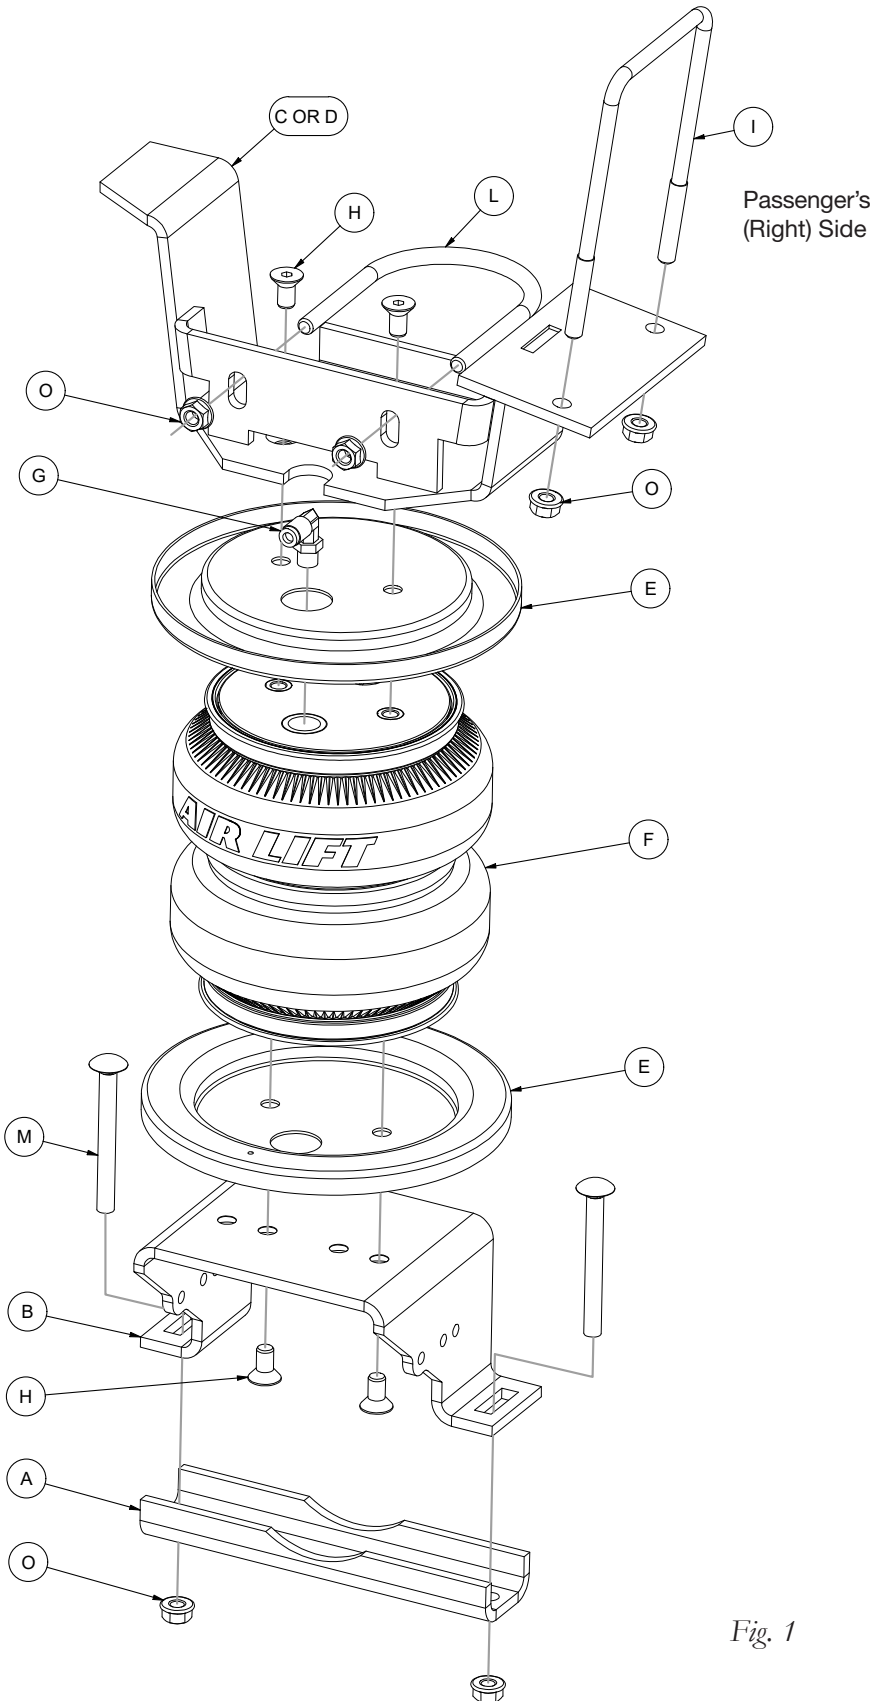
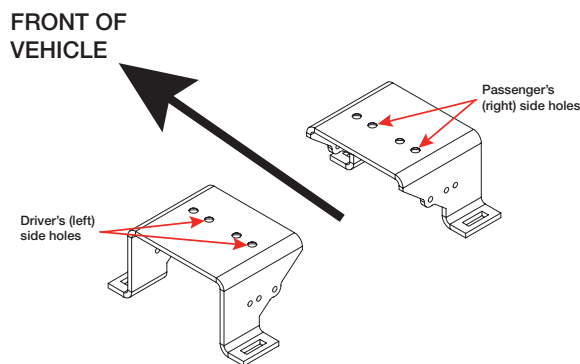
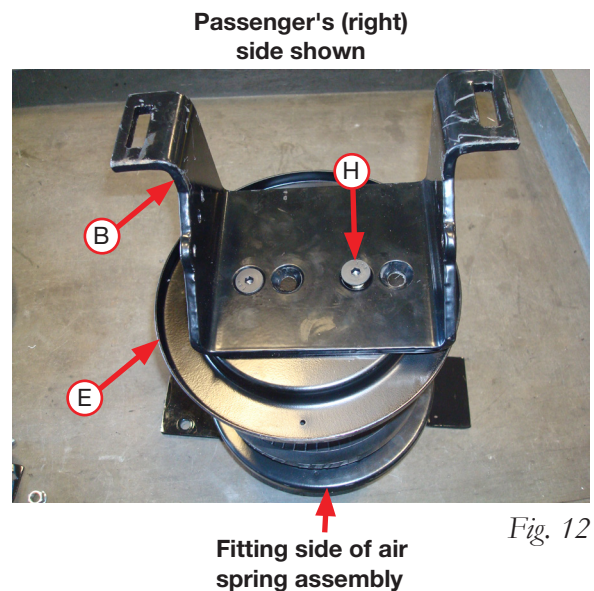

Fig. 1
Fig. 11
Fig. 12
\* These parts are not shown in the Installation Diagram (Fig.1).
3. To determine which holes in the lower bracket (B) to use for installing on the air spring assemblies, set them next to each other with the angled sections pointing toward each other (Fig. 1, Fig. 11 & Fig. 12). Use the first and the third holes on each bracket to attach to the air springs. Set a roll plate (E) onto the air spring assembly and attach the lower bracket onto the air spring with two 3/8" flat head screws (H) and torque to no more than 20 lb.-ft (27Nm).
THE ANGLED SIDE OF THE LOWER BRACKET WILL BE ON THE FITTING SIDE OF THE AIR SPRING (FIGS. 1, 11 & 12).